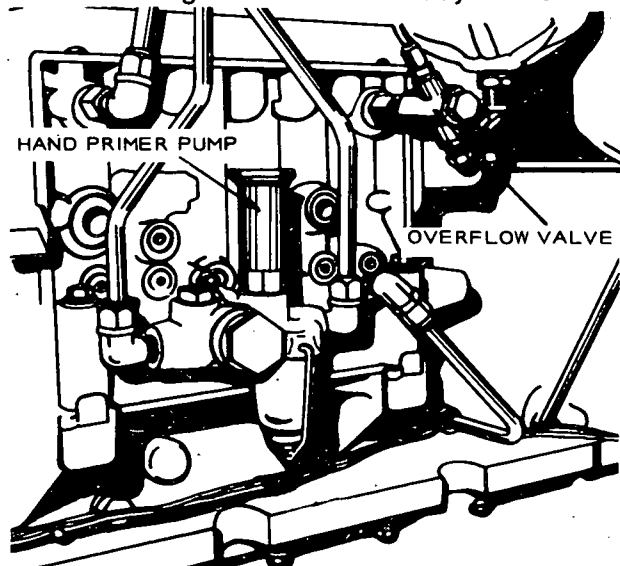

FIGURE 26. FUEL INJECTION SYSTEM
2. Using hand pump (Figure 26), prime system until fuel flow around filter vent screw is free of bubbles.
To bleed fuel injection pump sump refer to Figure 26. Disconnect fuel line from overflow valve and actuate hand primer. Continue pumping until fuel flow from valve is free of bubbles. Reconnect fuel line to overflow valve.